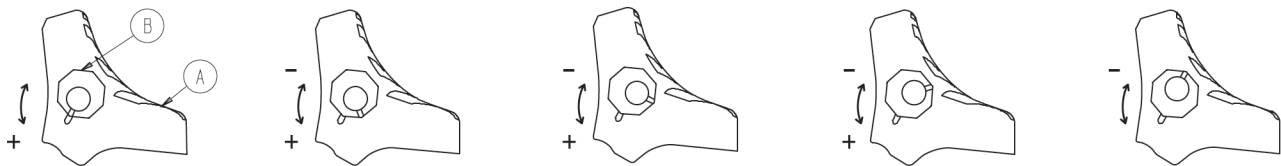

Figure 6 – Wheel locking force adjustment
1. Using the 5/32" hex wrench and 7/16" combination wrench or socket, remove the socket screw from the center of the lock pedal. Save the screw. The wheel lock is initially assembled with the pedal set at the minimum locking force. The marker on the pedal (A) is aligned with the marker on the octagonal sleeve (B) (Figure 6).
2. Remove the sleeve (B). Rotate the sleeve counterclockwise to increase the pedal locking force and clockwise to decrease the locking force. Insert the sleeve into the pedal (Figure 6).